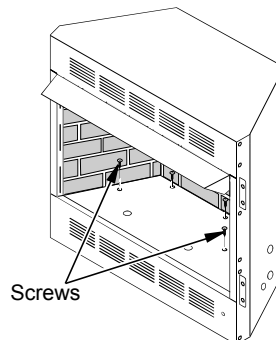

Figure 8 - Removing Firebox Bottom
- a. Remove the 4 screws that secure the bottom of the firebox (see Figure 8).
14. Replace and reattach firebox bottom using 4 screws removed in step 2 (see Figure 8, page 4).